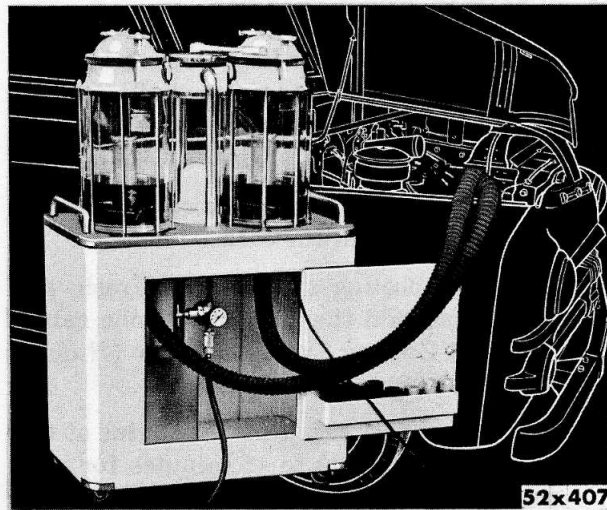

Fig. 15—Pressure Purger Cooling System Cleaner,
15. REVERSE FLUSHING THE RADIATOR WITH PRESSURE PURGER (FIGS. 15 AND 16)
This method of reverse flushing is accomplished by forcing air and water through the system in the direction opposite to that of the normal flow of the coolant. Thus, when forced through the system in this direction, the water works behind and underneath the scale and sediment deposits, loosening them. The following instructions are based on the use of the Pressure Purger Cooling System Cleaner, Tool MT-276 (Fig. 15), which can be used to clean a badly plugged cooling system that will not clear when the usual cleaning procedure is followed. However, regardless what pressure cleaning equipment is used to clean the cooling system, be sure to follow closely the manufacturer's instructions in order to obtain the best results.
- (5) Continue this procedure from five to ten minutes to make sure that the cylinder block has been purged.
- (6) Disconnect the purger hoses. Install thermostat and new outlet connection gasket. Tighten bolts securely.
- (7) Reinstall radiator hoses (if satisfactory for further use) and tighten clamps securely. Refill cooling system with clean, fresh, soft water.
- (8) Inspect the radiator and cylinder block and repair if necessary.
16. REVERSE FLUSHING THE CYLINDER BLOCK WITH PRESSURE PURGER (FIGS. 15 AND 16)